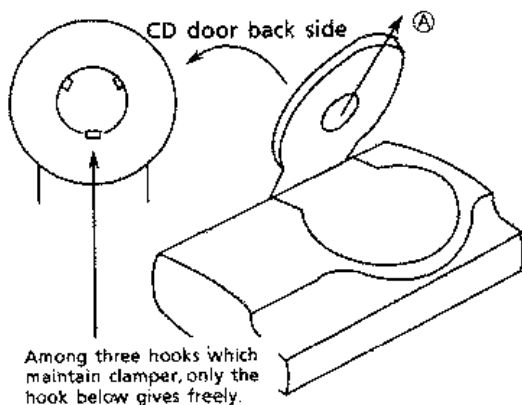

Fig.6
1. The clamper is drawn in the direction of ① as shown in figure 6 and the clamper removes from the lower side. (Power is somewhat necessary.)